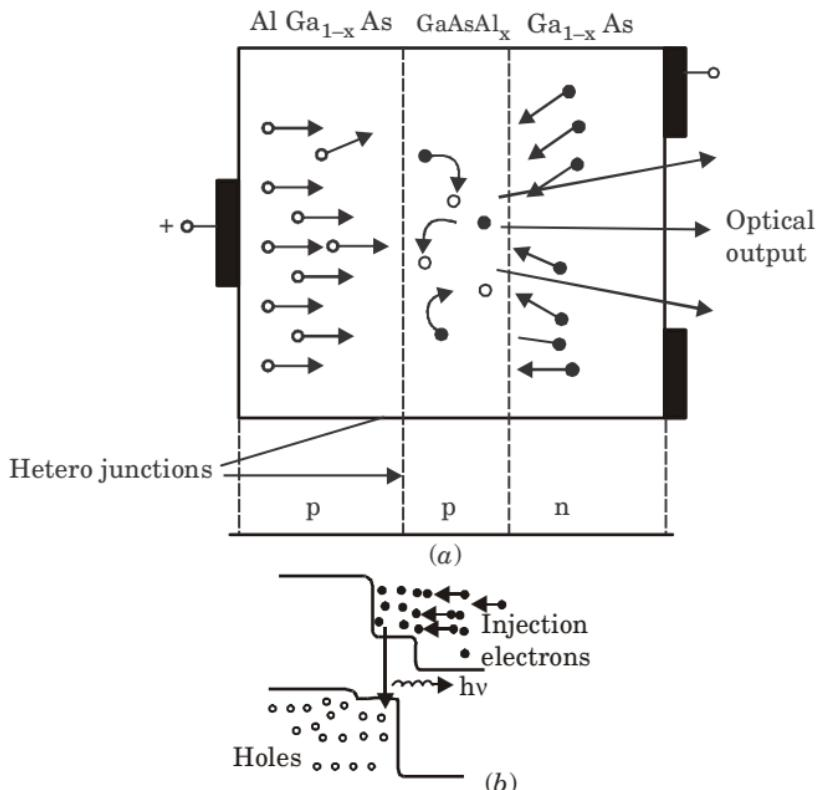

Fig. 7. (a) The double heterojunction LED, layer structure.
1. The principle of operation of the DH LED is shown in Fig. 7.